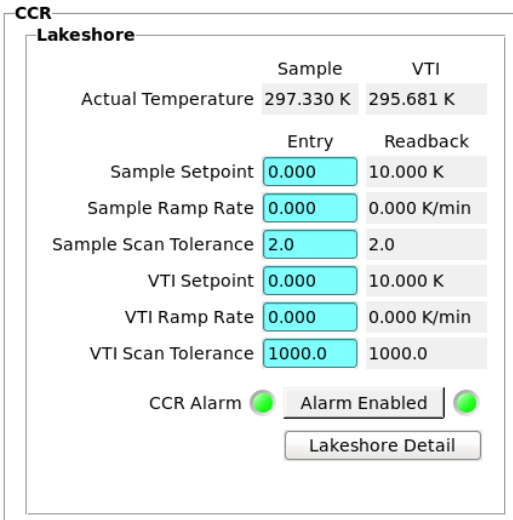

Figure 1. Lakeshore controls on the dashboard.
- a. Disable alarm by clicking the “Alarm Enabled” button in the Lakeshore box on the dashboard (Fig 1).
- r. Re-enable alarm by clicking the “Alarm Disabled” button in the Lakeshore box on the dashboard (Fig 1).